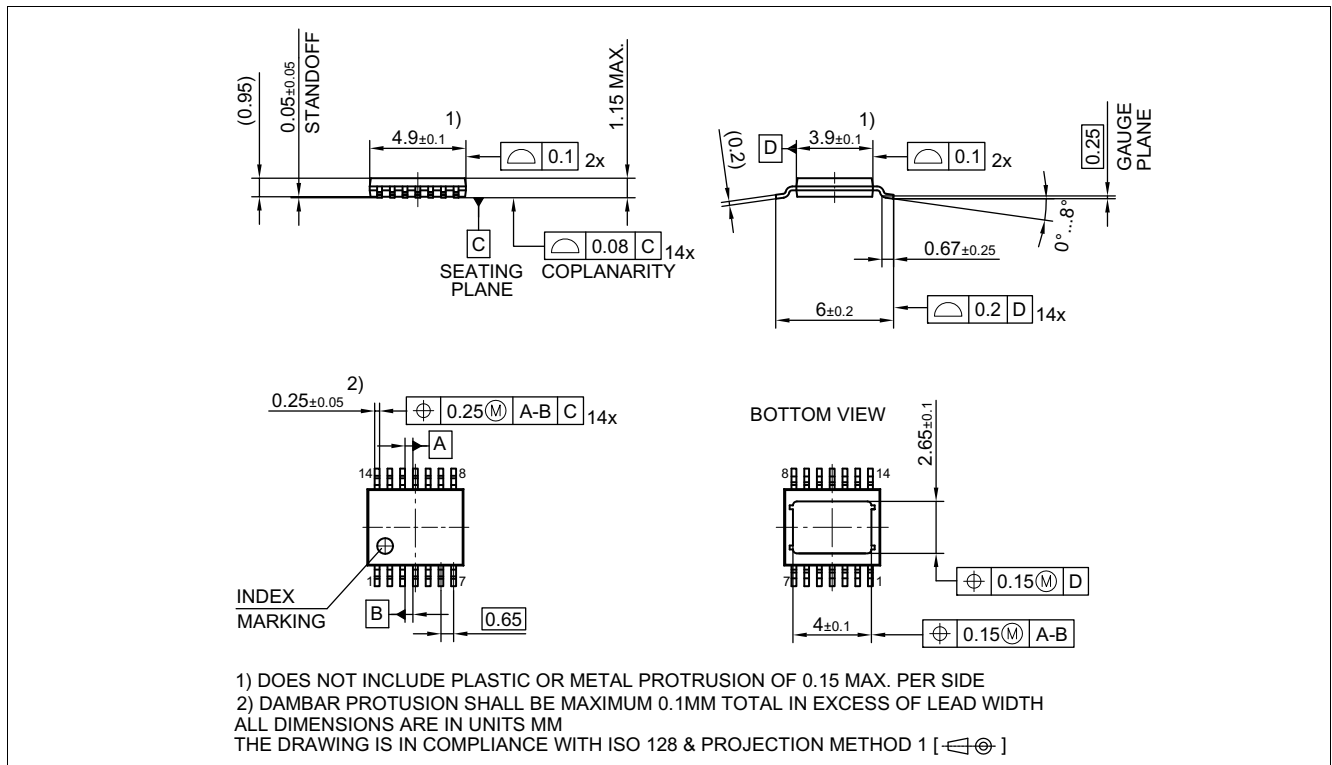
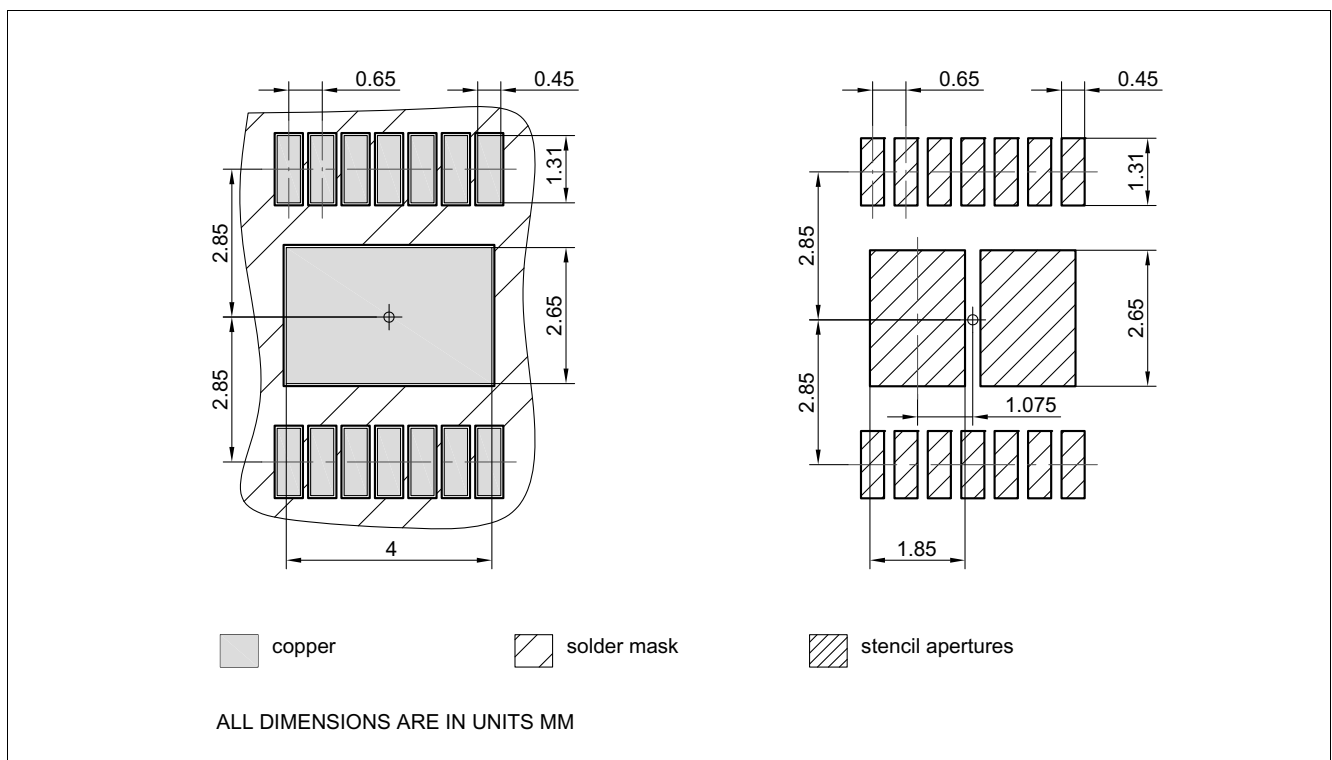

Figure 44 PG-TSDSO-14 (Thin (Slim) Dual Small Outline 14 pins) Package Outline
Figure 45 PG-TSDSO-14 (Thin (Slim) Dual Small Outline 14 pins) Package pads and stencil
1.03, 2018-10-18	<p>Chapter 9.3.1 updated (typo) Page 1: updated (Package PG-TSDSO-14-22 → Package PG-TSDSO-14) Figure 29 updated Figure 44 updated (PG-TSDSO-14-22 (Thin (Slim) Dual Small Outline 14 pins) Package Outline → PG-TSDSO-14 (Thin (Slim) Dual Small Outline 14 pins) Package Outline) Figure 45 updated (PG-TSDSO-14-22 (Thin (Slim) Dual Small Outline 14 pins) Package pads and stencil → PG-TSDSO-14 (Thin (Slim) Dual Small Outline 14 pins) Package pads and stencil) Table 1 updated ((Symbol: $I_{VS(SLEEP)}$ → $I_{VS(SLEEP)_{85}}$), (Parameter: Minimum Overvoltage protection ($T_J = 25\text{ °C}$) → Minimum Overvoltage protection ($T_J \geq 25\text{ °C}$)) P_9.6.0.6 updated (Note or Test Condition: removed unnecessary line-break) Chapter 7.4.1 updated chapter title (PROFET → PROFET™) Table 12 updated table title (PROFET → PROFET™) Chapter 8.6.1 updated chapter title (PROFET → PROFET™) Table 16 updated table title (PROFET → PROFET™) Chapter 9.5.1 updated chapter title (PROFET → PROFET™) Table 21 updated table title (PROFET → PROFET™) P_4.1.0.21, P_4.1.0.22, P_4.1.0.23, P_4.1.0.24 updated (footnote ESD standards) Table 1 updated ($R_{DS(ON)}$ → $R_{DS(ON)_{150}}$), ($V_{DS(CLAMP)}$ → $V_{DS(CLAMP)_{25}}$) Chapter 8.5.2 updated phrasing P_7.5.5.14 Table subheading "Switching Energy" added P_7.5.5.15 Table subheading "Switching Energy" added Chapter 6.4 added conditions Chapter 7.5 added conditions P_7.5.5.14 updated (Test condition: add "See Figure") P_7.5.5.15 updated (Test condition: add "See Figure") Chapter 8.7 added conditions Chapter 9.6 added conditions P_9.7.5.27 updated (Test condition: add "See Figure") P_9.7.5.29 updated (Test condition: add "See Figure") Chapter 7.3.1 typo corrected (link to Figure 19 added)</p>